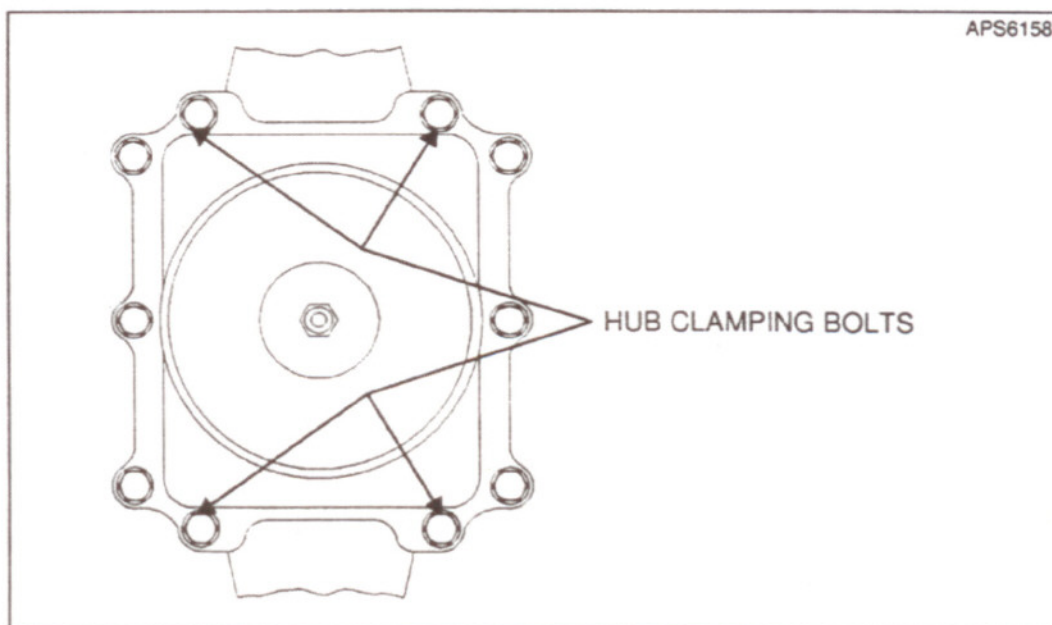

Figure 301 - Hub Clamping Bolt Location
- (1) See Figure 301. Remove the nuts from the hub clamping bolts that are located on either side of the blade shank. The remaining nuts/bolts should not be disturbed. Do not remove the bolts.
- (2) See Figure 301. The spinner may be supplied with long hub clamping bolts. If the bolts were supplied with the spinner, remove the bolts on either side of the blade shank and replace them with the bolts supplied with the spinner. The supplied hub clamping bolts will be longer than those removed from the hub.